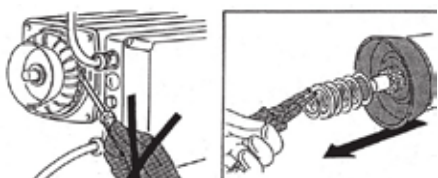

fig.118
5. Remove the snap ring from the splined shaft and remove the shim washers and brake block from the splined shaft, taking care not to remove the rear washers. (fig.118)